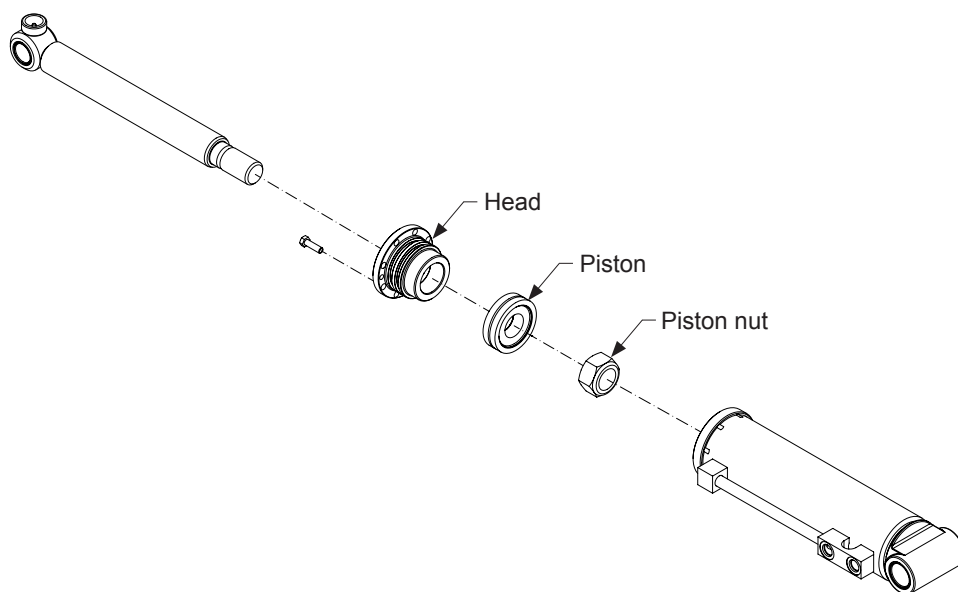

Figure 5 - Removing the piston from the rod
10. Fasten the rod in a vise as shown in the *Figure 5*.
11. Place a support under the rod as shown in *Figure 5*.